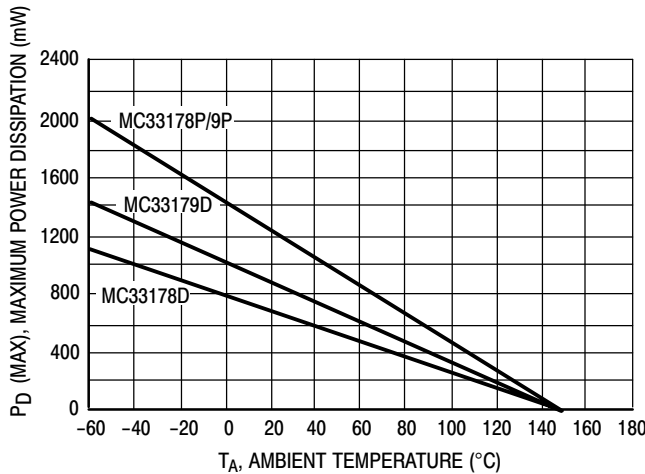

Figure 2. Maximum Power Dissipation versus Temperature
2. Power dissipation must be considered to ensure maximum junction temperature (T_J) is not exceeded. (See power dissipation performance characteristic, Figure 2.)